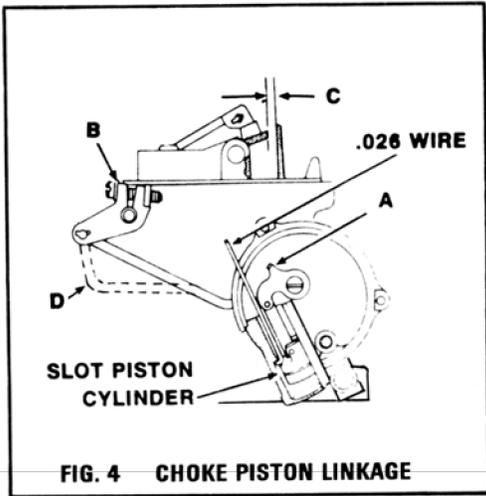

FIG. 4 CHOKE PISTON LINKAGE
## CHOKE PISTON LINKAGE (FIG. 4)
a. TYPE I (see figure 4). Hold choke valve closed and measure clearance between stop in choke piston housing and choke lever. This distance should be as listed in Adjustment Data Table. To adjust bend choke connector rod, which will be positioned at slightly different locations for some carburetors, or set lever on countershaft if lever has a clamp screw.